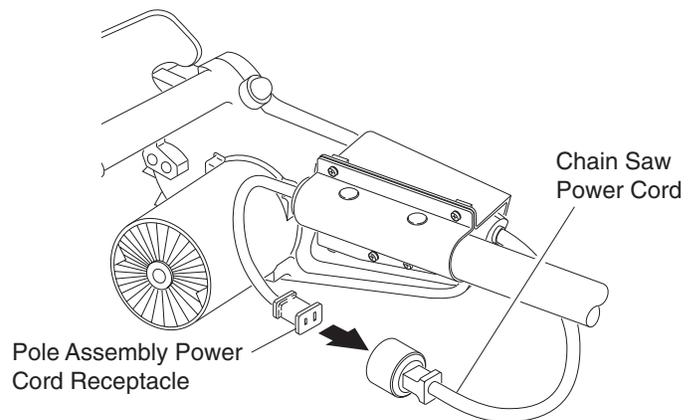

Figure 3 - Connecting Chain Saw Power Cord to Pole Assembly Power Cord
4. Plug chain saw power cord into receptacle end of pole assembly power cord (see Figure 3).